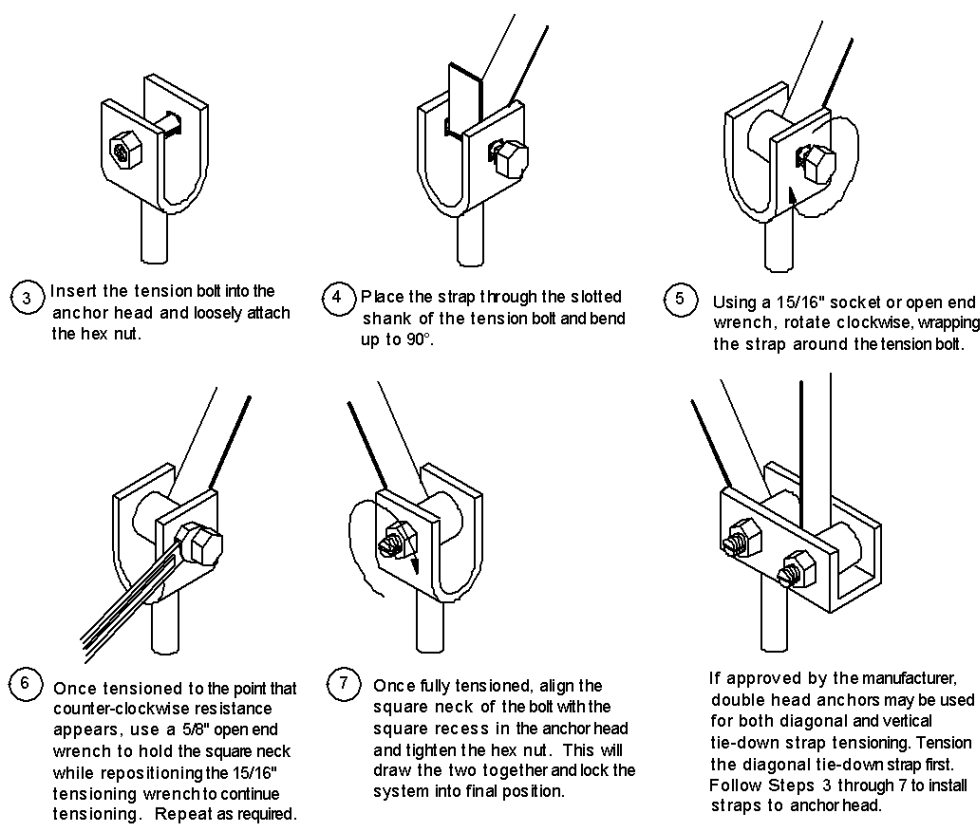

Figure 86. Procedure for connecting the strap to frame and anchor
2. **Connect strap to anchor.** Connect the other end of the strap to the split bolt in the anchor. Leave enough strap length to be able to make at least three, but no more than five complete turns around the bolt before it becomes tight (approximately 2 1/2 inches per turn or 7 1/2 to 13 inches total). Fewer than three turns and the strap may not hold onto the bolt when force is applied. Conversely, more than five turns may not fit within the U-channel of the anchor head. Follow the procedure outlined in **Figure 86**.